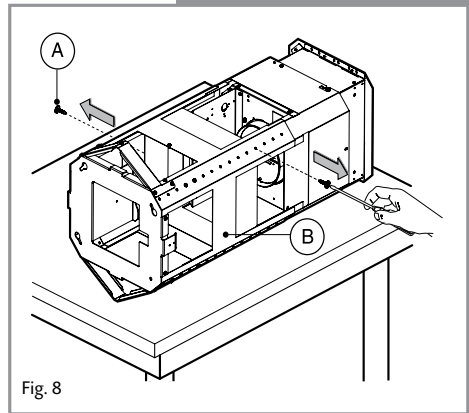

Fig. 8
1. Using the supplied template, mark the positions of the 3 main fixing holes and the additional fixing hole (X) on the ceiling.
3. Insert 3 screws into the main fixings, leaving approximately 3mm protruding, as shown in Fig 8.